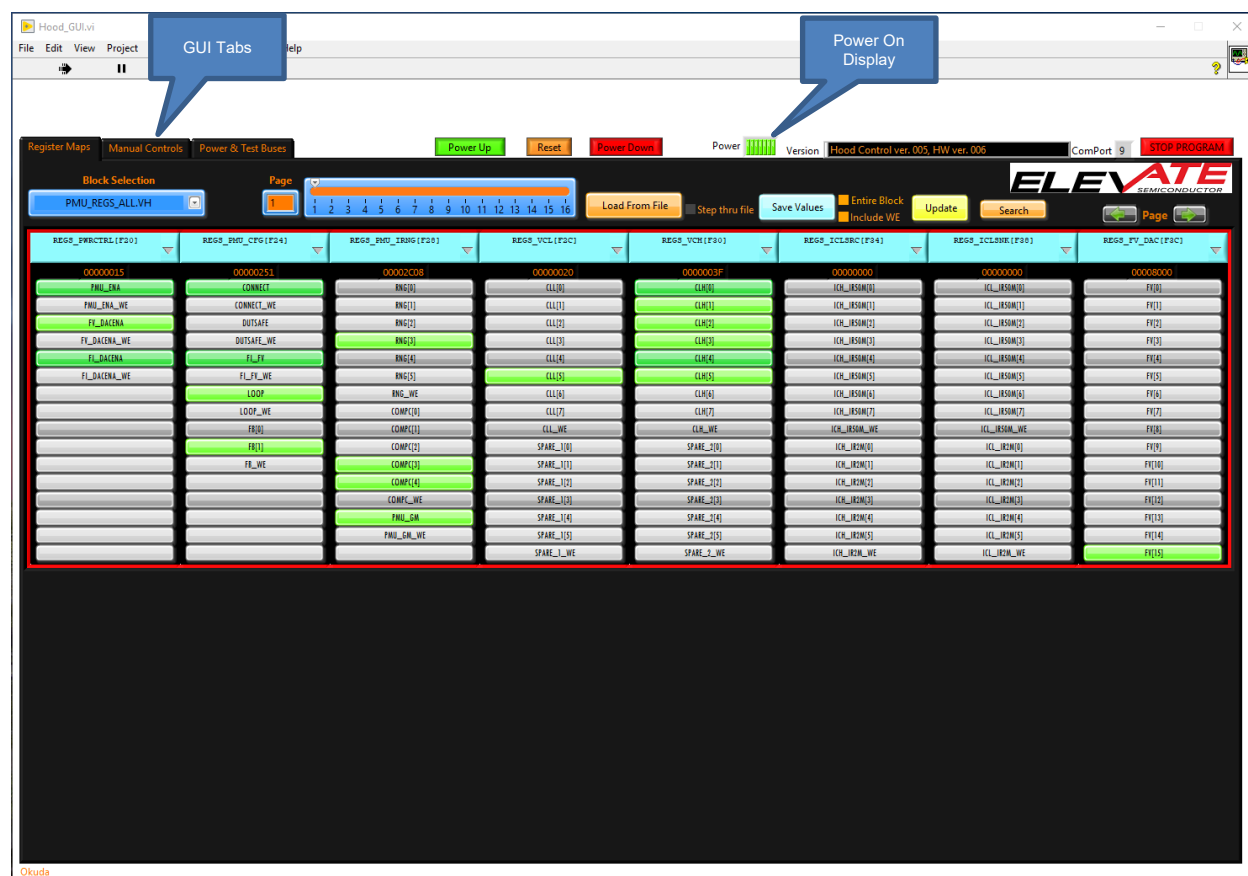

Figure 6: GUI Overview
1. Upon startup of the software (with 1 of the power options connected) the EVM board is powered on, but the Hood device will not be powered up. The EVM board contains DC-DC converters which supply power to the Hood device. The DC-DC converters connected to the Hood device are indicated on the “Power On Display” as shown in Figure 6. At this time, the power output bars will be uncolored. After powering up the Hood device, these bars will turn green. (The power up sequence is shown below in Section 4: Powering Up and Powering Down the Hood Device).